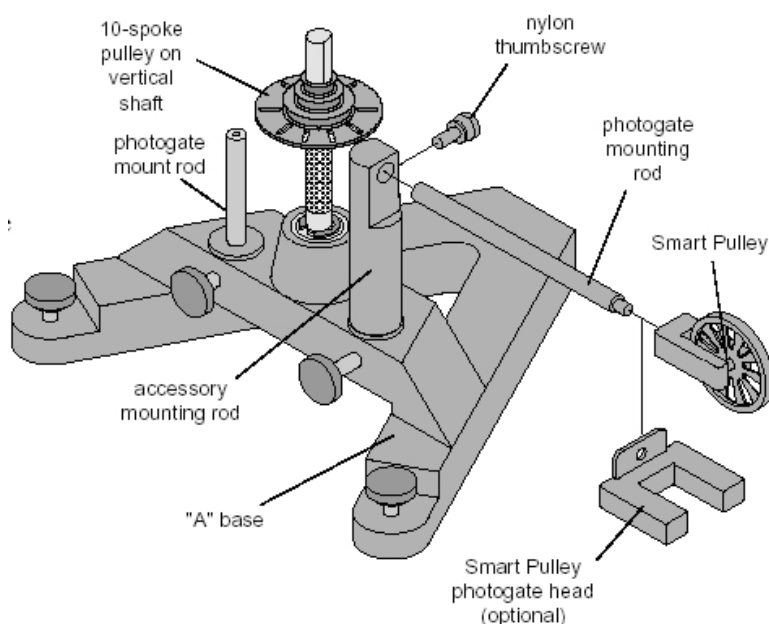

Figure A3: Using the Accessory Mounting Rod with the Photogate Mounting Rod and/or Smart Pulley
1. Insert the Smart Pulley rod into the hole in the black rod and tighten the set screw against the Smart Pulley rod. See Fig. A3.